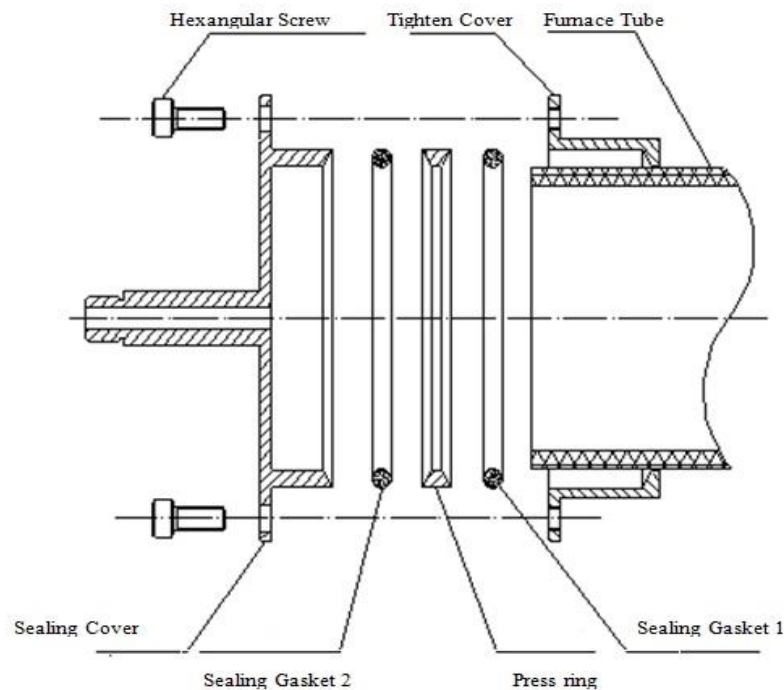

Fig. 20
- 1) Remove the tube from the furnace after disassembling the vacuum sealing flanges from the tube (refer to Fig. 20).
- 4) Install the vacuum sealing flanges back onto the tube using the following procedures (refer to Fig. 20 again if necessary).